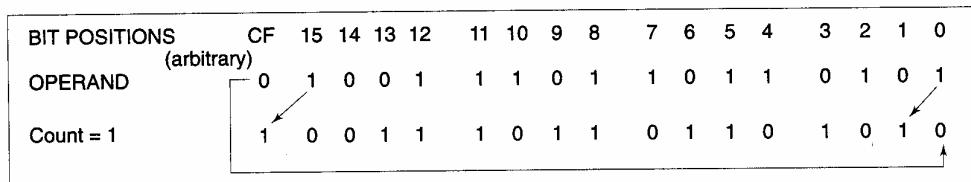

Figure 5.9: Execution of RCL Instruction
RCL: Rotate Left through Carry: This instruction rotates (bit-wise) the contents of the destination operand left by the specified count through the carry flag (CF). For each operation, the carry flag is pushed into LSB , and the MSB of the operand is pushed into carry flag. The remaining bits are shifted left by the specified positions. The SF, PF, ZF are left operation. The operand may be a register or a memory location. Figure 5.9 explains the operation